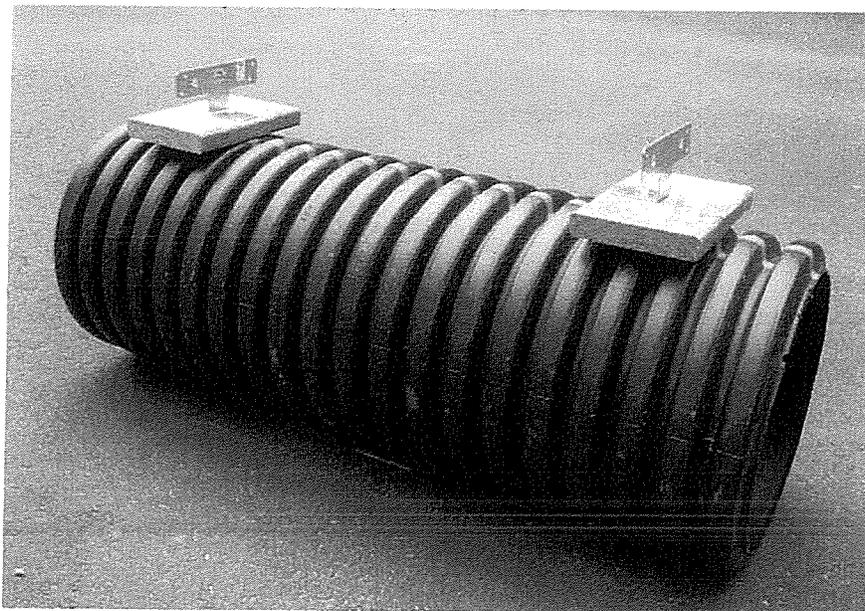

Figure 6 Plastic Corrugated Pipe Assembly
**Plastic Pipe Sills** – Figure 6 depicts the strong, lightweight plastic sill with stringer pads and attachment hardware.